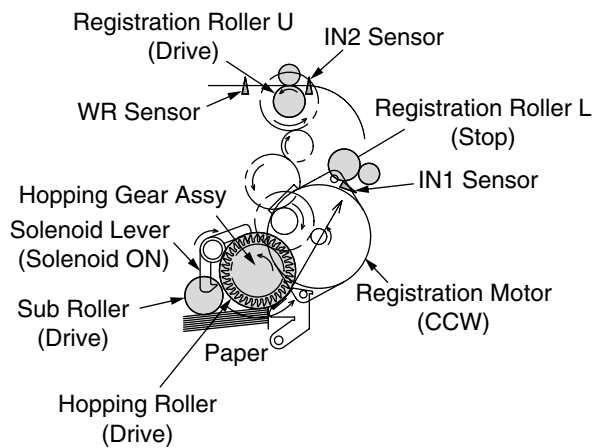

Figure 2-1
1. As indicated in Figure 2-1, when the solenoid is ON, the registration motor rotates (CCW), and transports the paper until IN1 sensor turns ON. (The hopping roller rotates when the solenoid is ON.)